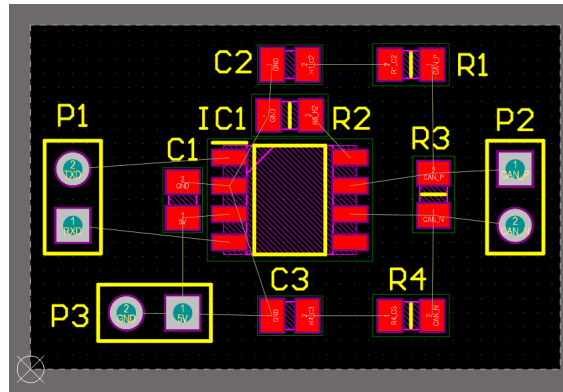

Figure 24: Example of a decent fine-tuned PCB layout ready for routing
3. Once you are happy with your initial layout, fine-tune it so that components are better aligned for routing (and for aesthetics). A decent fine-tuned board layout is shown in Figure 24.